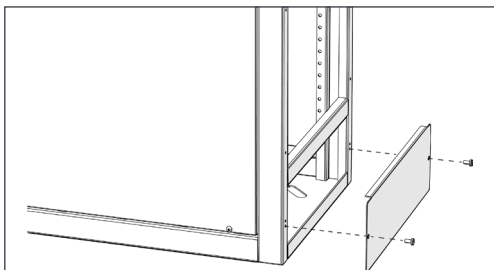

Figure 5. Bottom rear panel
Step 3. Uninstall the bottom rear panel by removing the (2) #12-24 screws (see Figure 5).